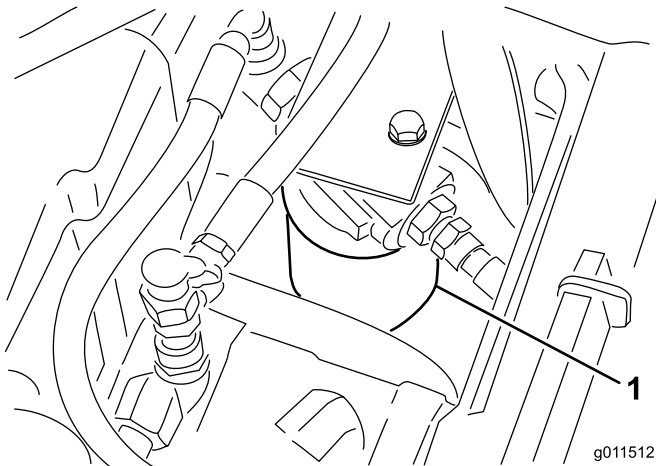

Figure 75
2. Clean the area around the filter mounting area. Place a drain pan under the filter and remove the filter (Figure 75).